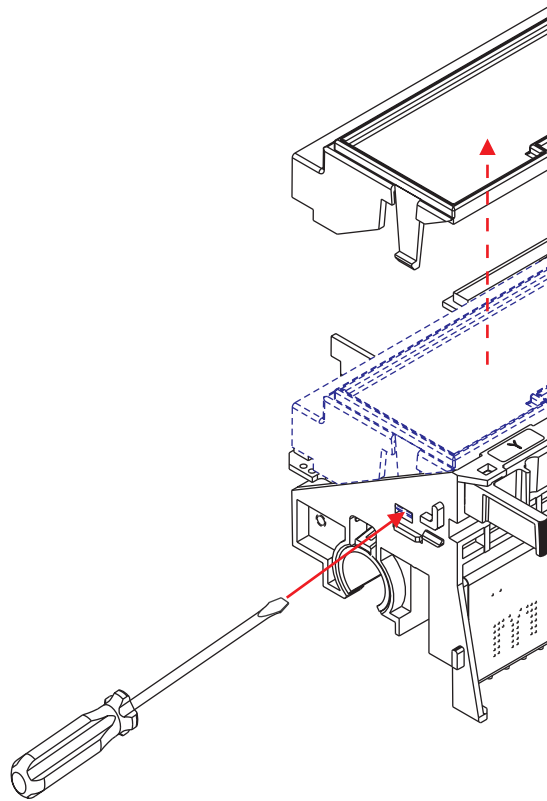

Figure 5-9. Electronics Cover Removal.
3. With a flathead screwdriver, press the Electronics Cover tab located in the upper slot on the left side of the Carriage Assembly. See Figure 5-9. Lift up on the front left side of the Carriage Cover until it comes part way off of the Carriage Assembly. Then lift up on the front right side of the Carriage Cover and move the Carriage Cover slightly to the left so that the back of it clears the Back Support Bracket.